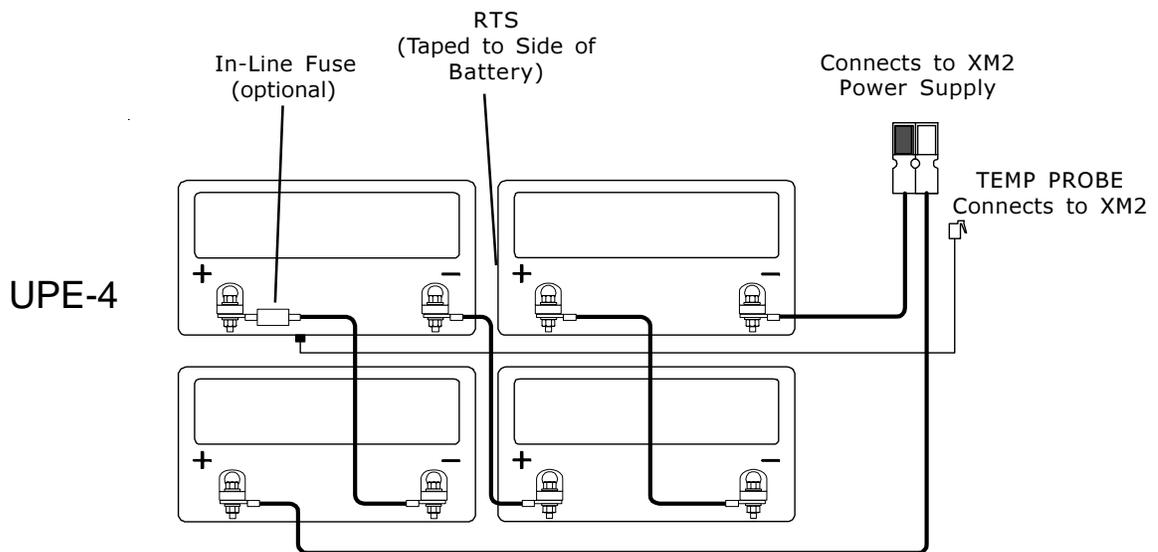
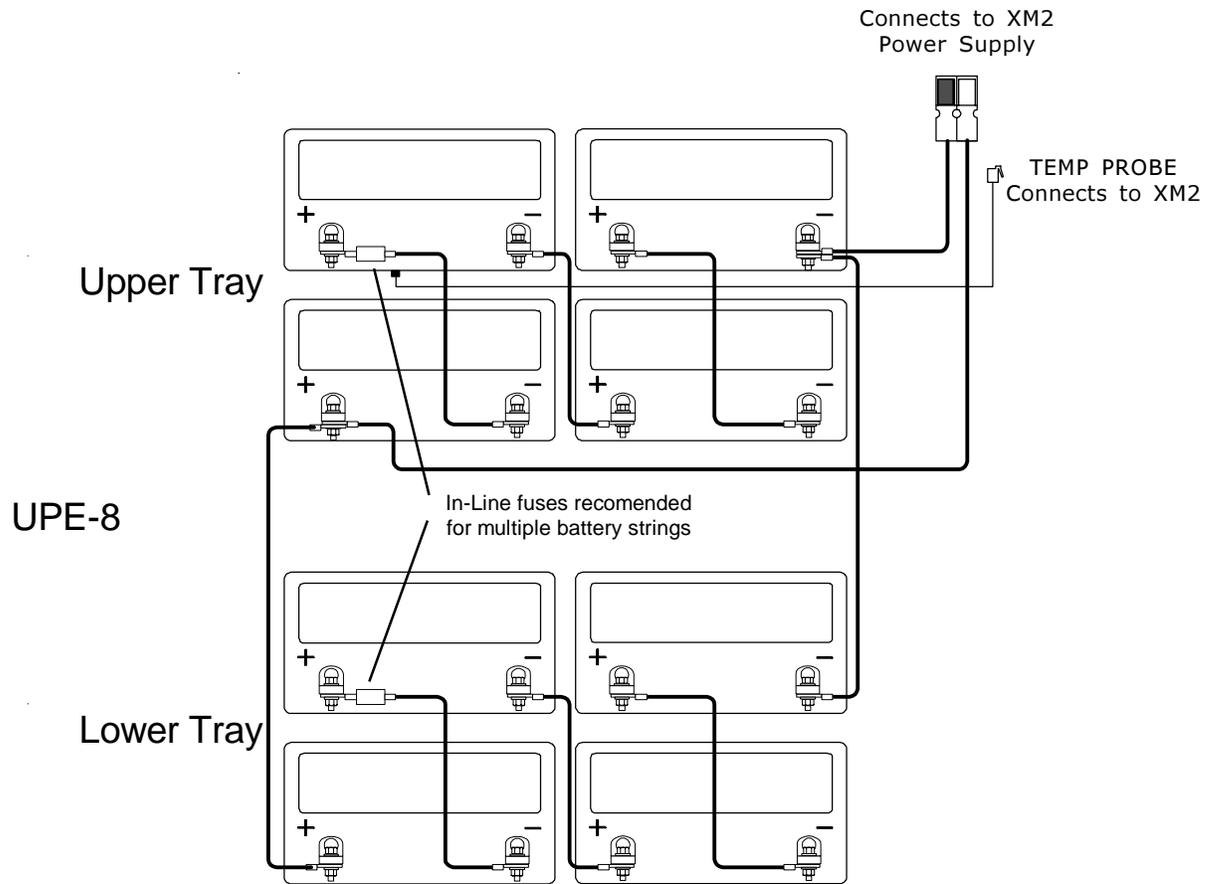

Fig. 2-6 UPE-4 Battery Placement
Fig. 2-7 UPE-8 Battery Placement
2. Install four batteries, position batteries as shown in Fig. 2-6.
3. Wire in accordance with Fig. 2-6.
2. Install four batteries, position batteries as shown in Fig 2-7
3. Wire in accordance with Fig. 2-7.
6. Install three or four batteries, position batteries as shown in Fig 2-6 or Fig 2-7.
7. Wire in accordance with Fig. 2-6 or Fig. 2-7.
1. Attach the RTS Probe to the inner side of battery #3 (Fig. 2-6), or battery #4 (Fig. 2-7) on the upper tray, with adhesive tape.